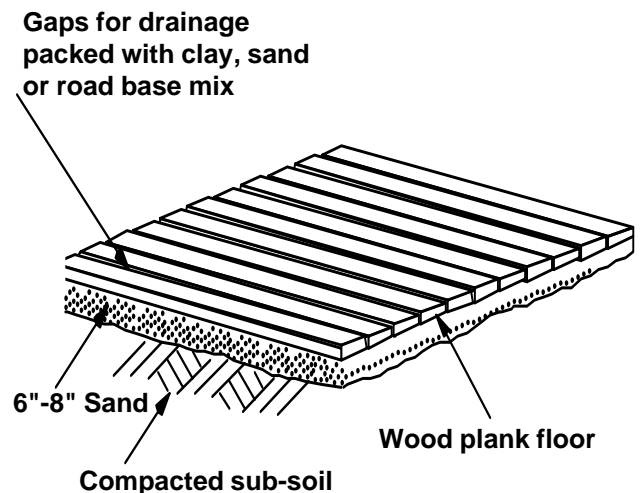

Figure 3. Wood floor construction.
**WOOD**—Once a common flooring in the era of horse-drawn transportation, it is utilized less in modern horse facilities due the relatively high initial expense of hardwood boards. In addition, concrete and asphalt have become more available over this timeframe. Wood provides a low maintenance, level floor that aids in stall mucking. Planks should be at least 2-inch thick hardwood (often oak) with preservative treatment. Gaps between boards allow urine drainage and should be packed with sand, road base mix, or clay (Figure 3). Planks are placed over a level surface of 6 to 8-inches of sand or small gravel to aid drainage or set into asphalt or concrete. A wood floor helps alleviate stiffness in the muscles and joints by insulating the horse from the cold ground. It offers a softer footing than concrete or asphalt, but may become slick with wetness and is difficult to disinfect due to wood’s porous nature. Gaps between planks create holding spaces for spilled grain, inviting insects and rodent infestation. Correct construction and adequate bedding can minimize rodent and wetness problems.